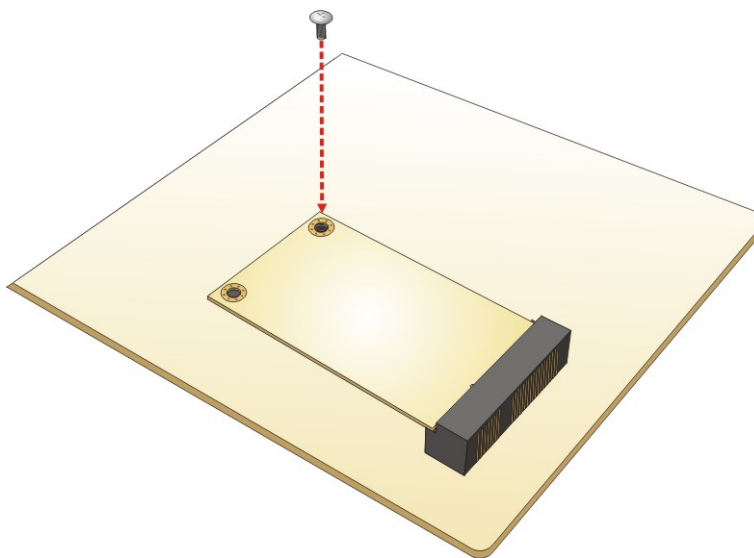

Figure 4-7: Securing the Full-size PCIe Mini Card
Step 4: Secure the full-size PCIe Mini card with the retention screw previously removed (Figure 4-7).